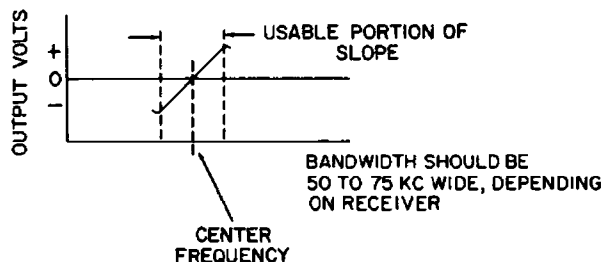

Fig. 10-2. Ideal discriminator curve.
4. Align the discriminator-transformer primary and secondary for a pattern similar to Fig. 10-2. The symmetry and